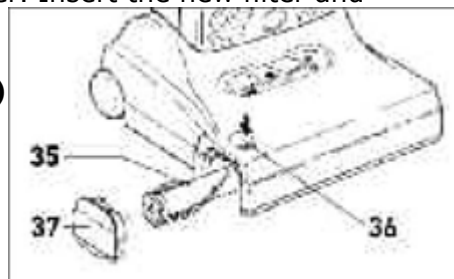

Figure 13 (X4)
- **Figure 13 (X4), Figure 13a (X5)** or 35a), push the button(s) (36 or (37 or 37a), turn the brush(s) pull the old brush roller(s) out. Slide brush housing and turn it until it pushing the button(s) (36 or 36a), 37a) back into the locked position.
The sealing strip (39) is located just behind the brush roller opening. The sealing strip seals the power head to hard floors to prevent kick-back of debris while vacuuming. To replace a worn sealing strip, push the release button, remove the side plate (36 and 37 in figure 13 & 13a) and slide old strip out. Insert the new strip into the slot and slide into place.